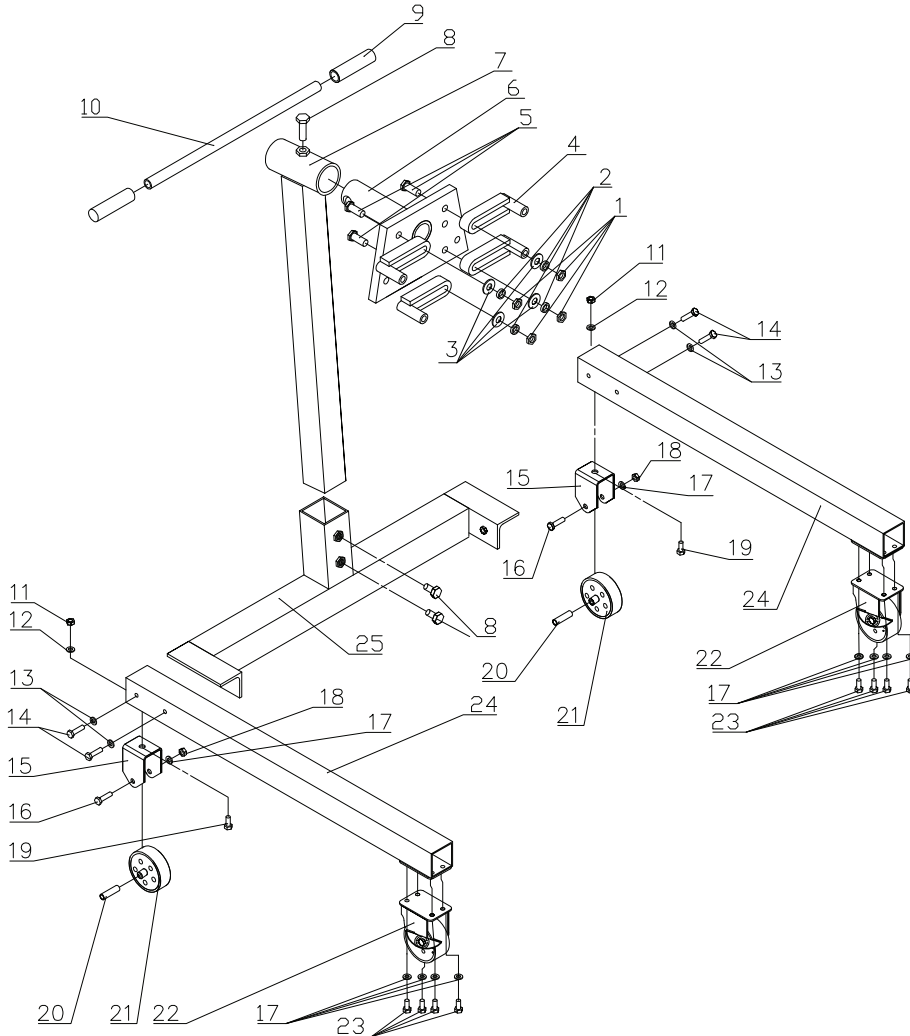

Figure 8 - Replacement Parts Illustration for model 31250
4. To rotate engine slowly and carefully release locking mechanism. Use original handle to rotate, then secure by engaging lock mechanism (see Fig. 1 & 2). For model 31256, slowly and carefully engage the crank handle (see Fig. 8)